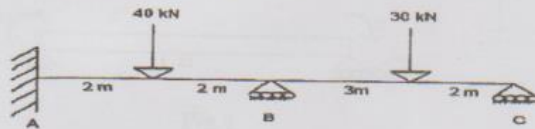

Fig.6
14. a) Determine the shape factor of a T section of size (120 × 120 × 10 mm). (OR)
- b) Calculate the plastic moment capacity required for the continuous beam shown in Fig.6 with working loads.